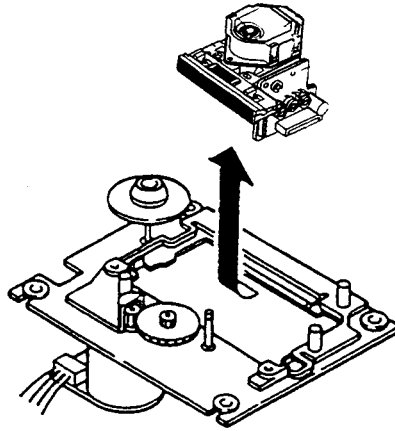

Figure 8
5. Remove the pickup (See Figure 8).